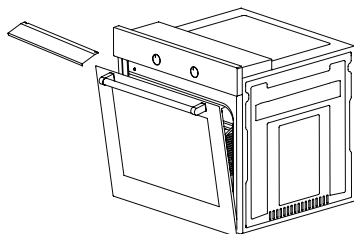

Figure 16
1. Place the heat shield under the control panel by opening the oven front door. (figure 16)